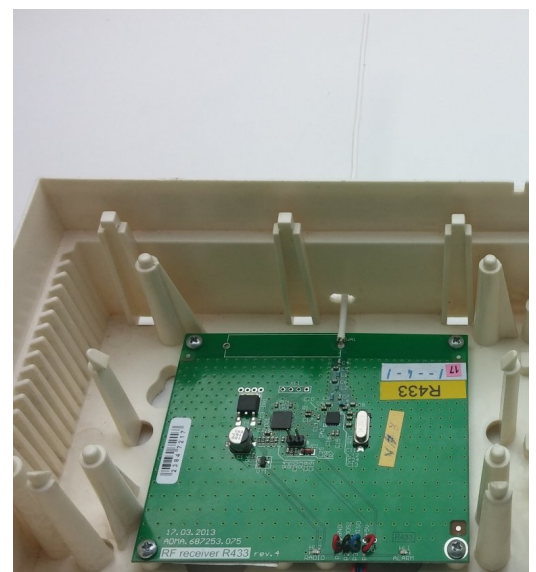
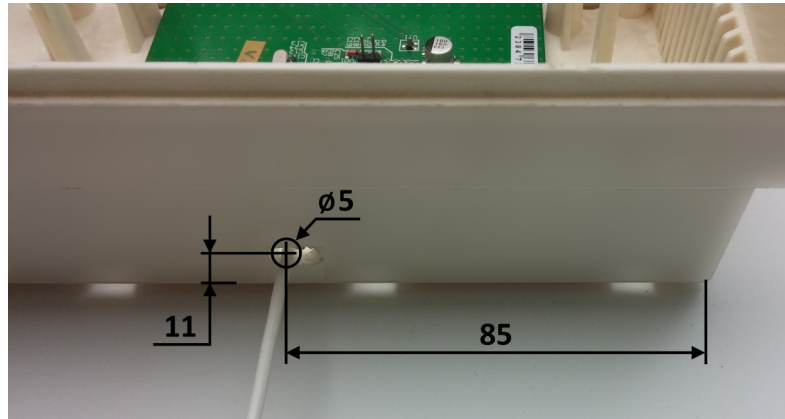

Figure 21. “R433” rev. 4 radio receiver in the device housing
Figure 22. Hole in the housing for the antenna of “R433” rev.4 radio receiver
2. Drill a hole in the device housing as shown in Figure 22, and install the radio receiver board as shown in Figure 21;